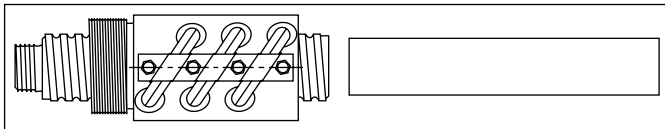

Figure 5
3. Remove the arbor. (See Figure 5.)